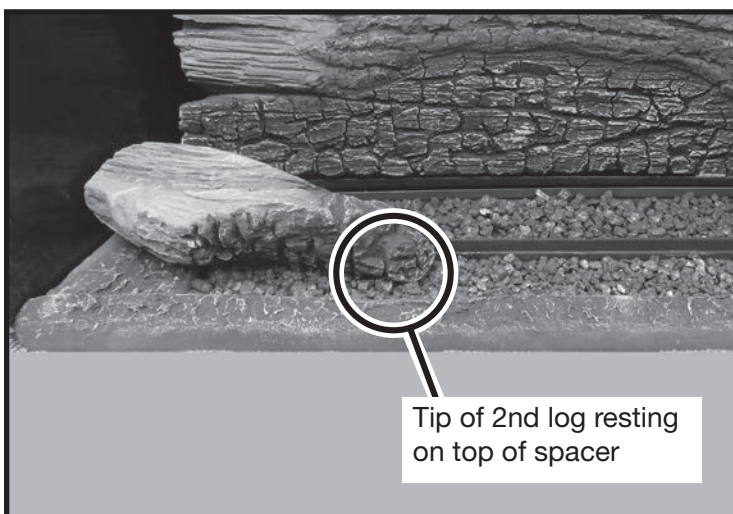

Figure 77: 2nd log on top of support.
10. Place log number two (Figure 56) so that the post protruding from the bottom of the log can be inserted into the hole of the left base piece. Then position the front of the log so that it rests on top of the spacer (Figure 77). The log and the ember pieces should ideally hide the spacer.